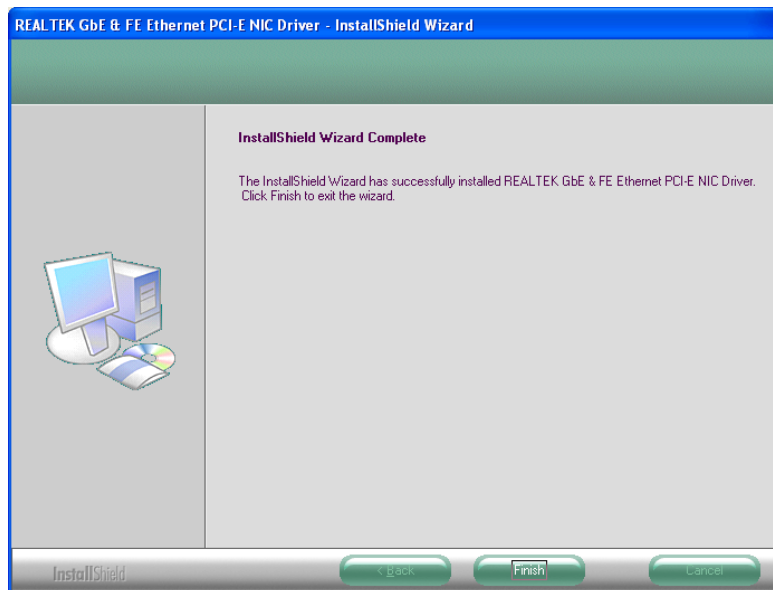

Figure 6-18: LAN Driver Installation Complete
Step 9: When the driver installation is complete, the screen in **Figure 6-18** appears.